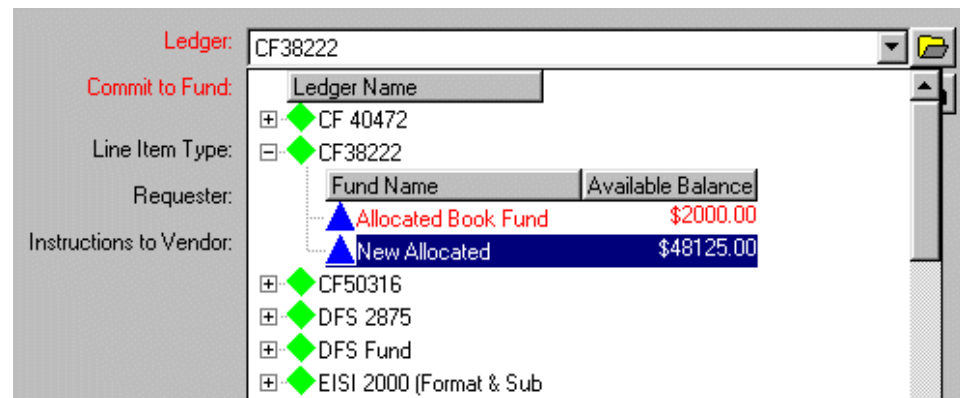

Figure 6-69. Ledger/Fund hierarchy displayed in the Ledger field
- If you want to select a fund from the ledger/fund hierarchy (Figure 6-69) rather than typing the fund code into the **Commit to Fund** field, click the **folder** button beside the **Ledger** field. This displays a hierarchy of available ledgers and funds. To aid you in selecting an appropriate fund, each fund's available balance displays within the hierarchy.